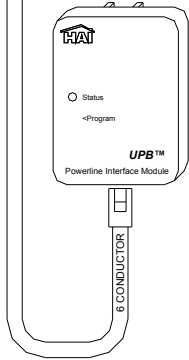

FIGURE 1 - CONTROLLER HOOKUP
6. Refer to **FIGURE 1 (CONTROLLER HOOKUP)** for this configuration.